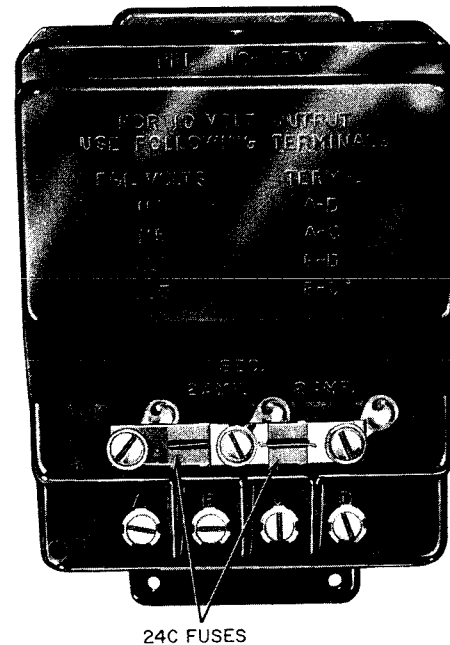

Fig. 1—393B Transformer
2.01 The 393B transformer (Fig. 1) is used primarily as a power supply for 10-volt lamps in 1A, 1A1, and 1A2 key telephone systems. It is furnished in a metal box with a removable cover. The box is approximately 8-3/4 inches long, 4-1/4 inches high, and 4 inches deep.
*The 24-type fuses of later design are manufactured with a metallic surface on one side only. When placing these fuses in the 393B transformer, be sure the nonmetallic sides of the fuses are together on the center post (Fig. 1).*